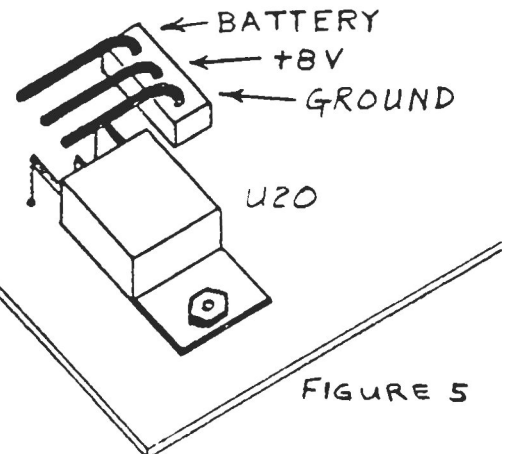

FIGURE 5
12. See figure 5. Install and solder the three pin Molex connector, P1, as shown in the component parts layout. This connector may be omitted if battery backup is not necessary.